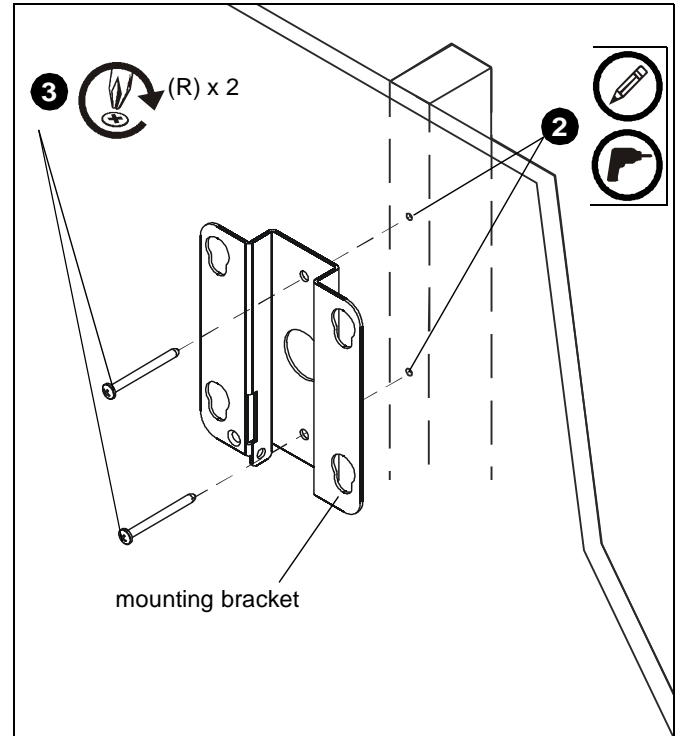

Figure 6
2. Using the removed mounting bracket as a template, mark and then drill two 7/64" diameter pilot holes through top and bottom holes of wall bracket into wall. (See Figure 6)
3. Install two #12 x 2 1/2" round Phillips wood screws (R) through bracket and drywall into wood stud. (See Figure 6)
4. Ensure bracket is vertical, then tighten screws (R).